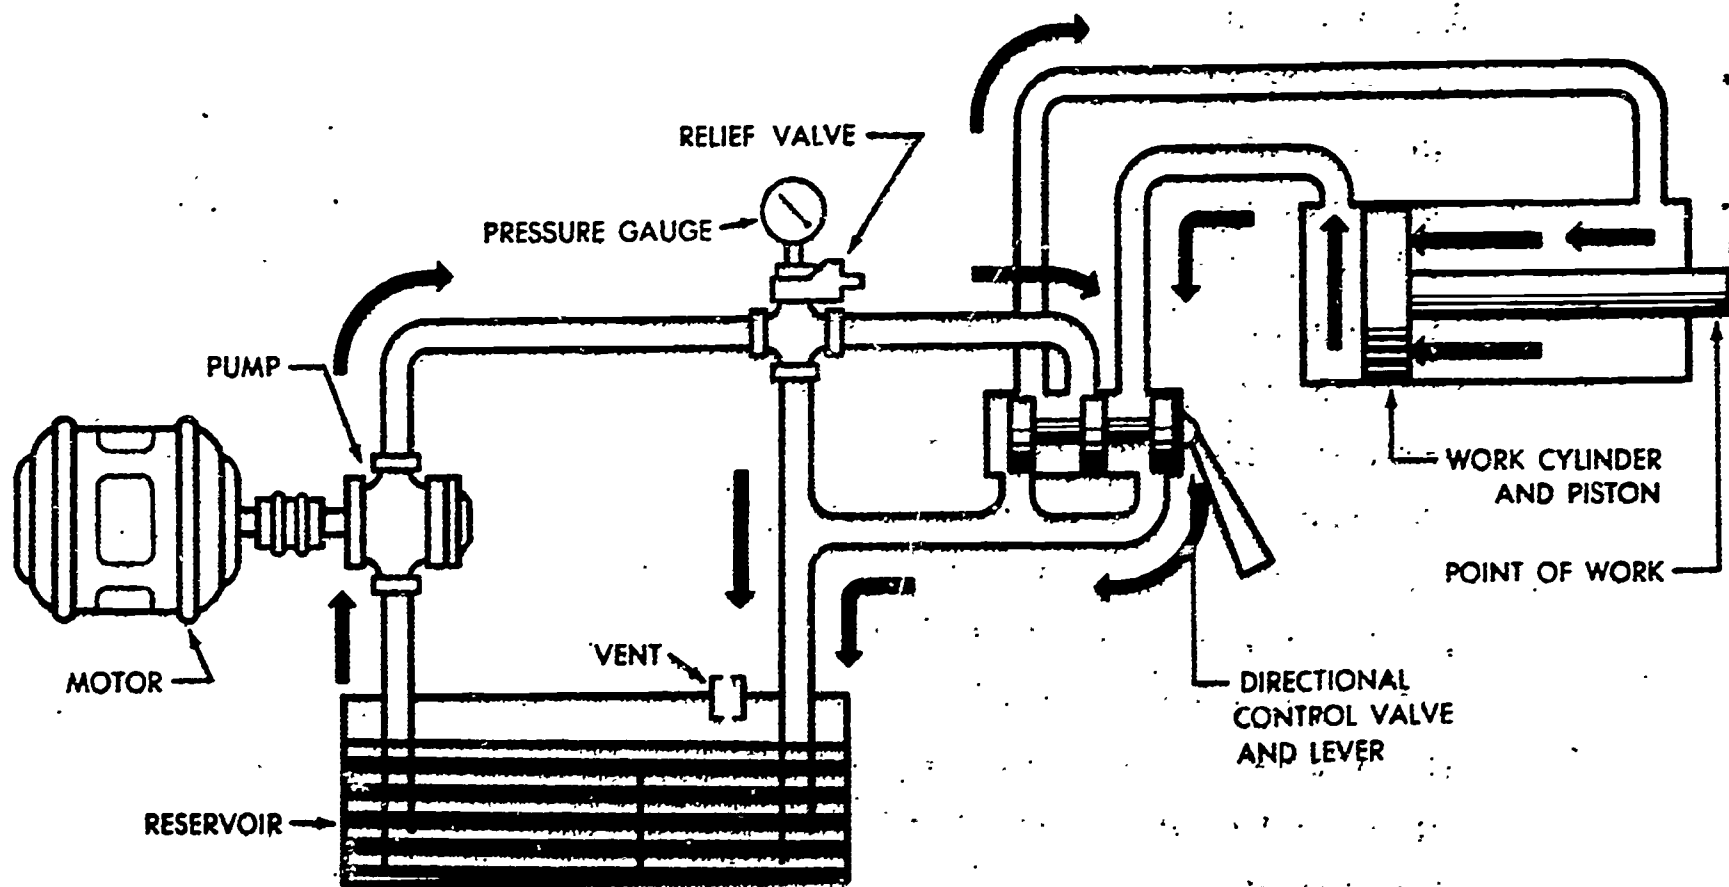
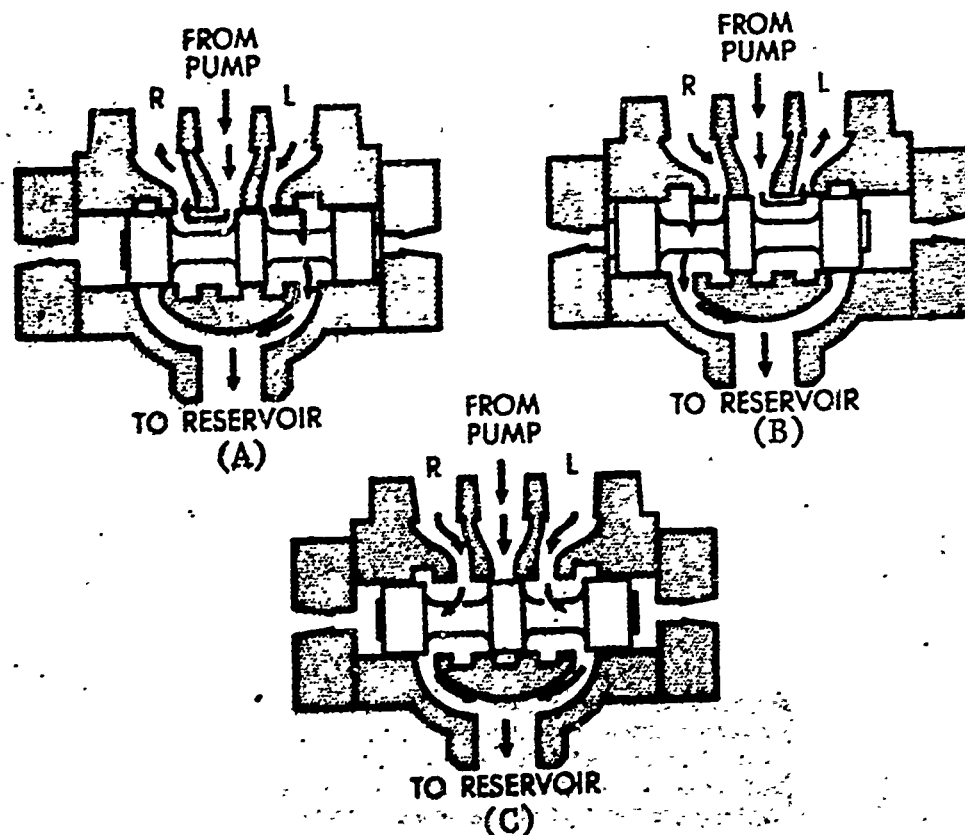
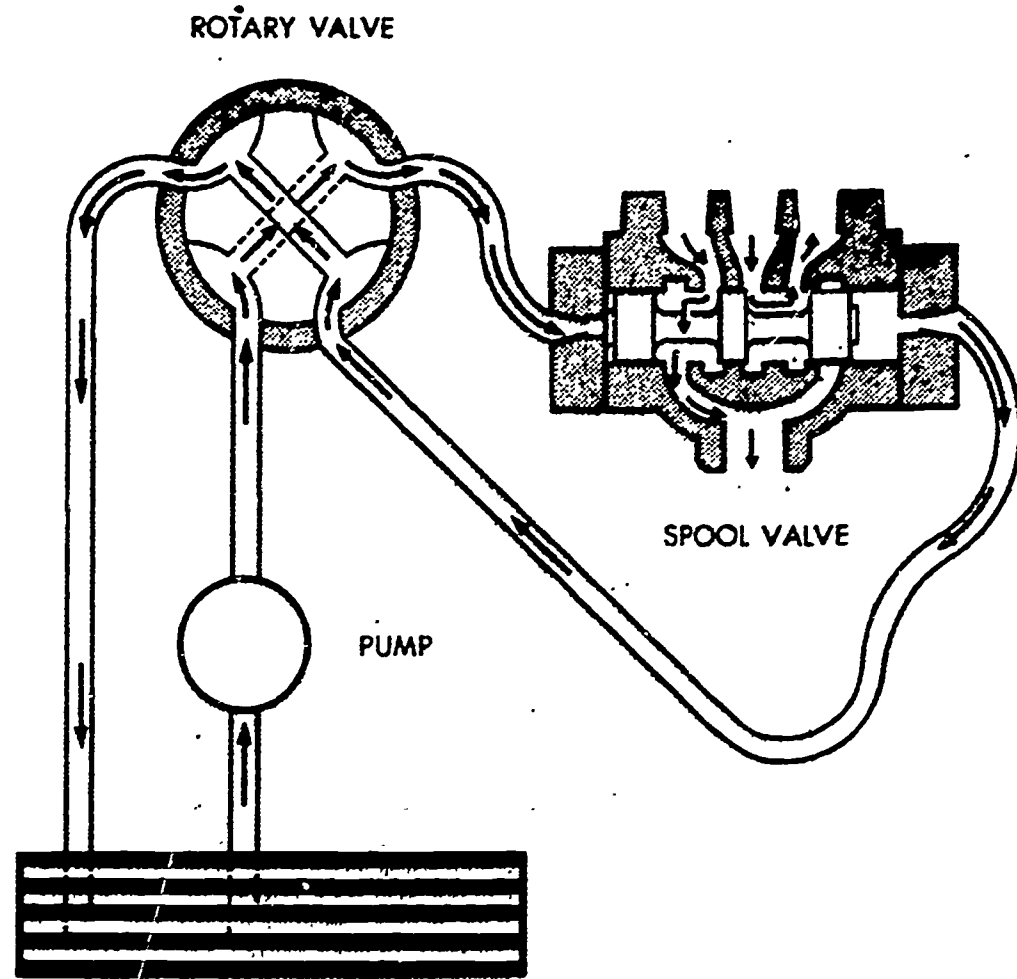

Fig. 9 Typical four-way spool valve installation.
Fig. 10 Four-way valve operation
Fig. 11 Controlling a four-way valve by means of another type valve
FOUR-WAY SPOOL VALVES -- Valves of this type connect with four separate lines. Let's look at a typical installation of this valve that would be comparable to one-half of the system on a front end loader, see Figure 9.
In Figure 9, one line connects the valve to the pump. Another connects it with the reservoir, by means of two exits from the inside of the valve. The other two lines run to either end of the work cylinder.
Keep Figure 9 in mind as you view Figure 10, which is a closer look at the four-way valve operation.
The position of the piston in Figure 10 (A) corresponds to the situation shown in Figure 9. With the piston of the valve to the far right in its cylinder, liquid from the pump flows to the right end (R) of a work cylinder, while liquid from the left end (L) of the work cylinder is being returned to the reservoir. In Figure 10 (B), with the piston to the far left in its cylinder, relations are reversed, since liquid from the pump flows to the left end of the work cylinder, while liquid from the right end is being returned to the reservoir. In Figure 10 (C), with the piston in the intermediate position, flow through the valve from the pump is shut off and both ends of the work cylinder can drain to the reservoir, unless other valves are called on to control flow from them.
The valve in Figure 9 is operated by moving a lever.
The valves in Figure 10 are designed to be operated by a pilot valve. The pilot valve alternately delivers pressure to one end and then to the other of the cylinder of the four-way valve, in exactly the same manner as the reversing valve might be used to drive a work piston; see Figure 11. In Figure 10 (A), for example, the pilot valve would stop delivering pressure to the left-hand end of the piston, and would begin delivering pressure to the right-hand end, thus reversing the position of the valve piston.